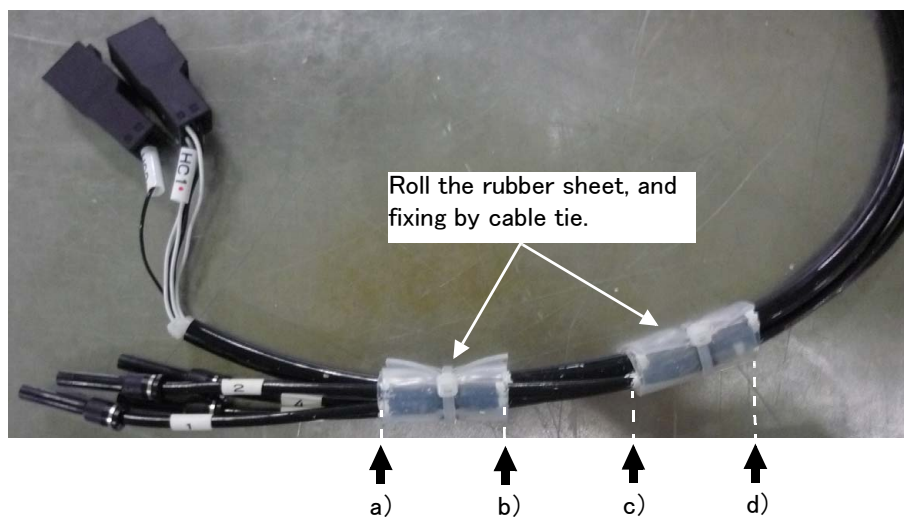

Fig.3-6 : Protection of hand tube and hand input cable
- 1) To protect the fixing place of the hand input cable, roll the attached rubber sheet. Roll the rubber sheet with referring to Page 50, "Fig.3-6 : Protection of hand tube and hand input cable". If using the hand tube, roll together.